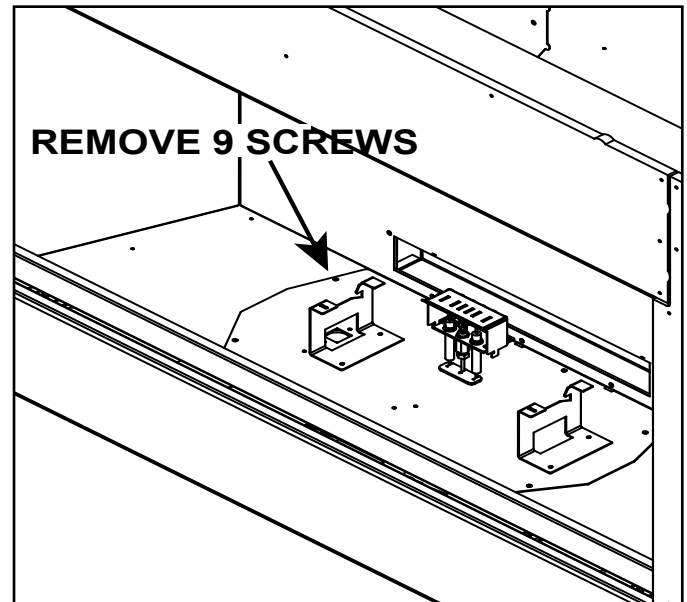

Figure 9.3 Remove Valve Plate
5. Remove the nine screws around the perimeter of the valve plate that secure valve plate to the appliance. See Figure 9.3.